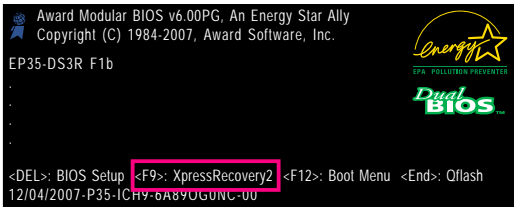

Figure 9
2. After you use the backup function in Xpress Recovery2 for the first time, Xpress Recovery2 will stay permanent in your hard drive. If you wish to enter Xpress Recovery2 later, simply press `<F9>` during the POST (Figure 9).